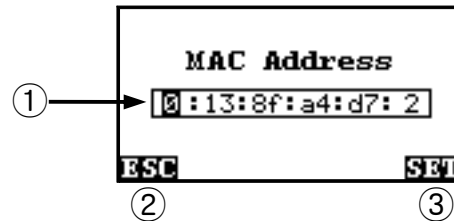

**Figure 5. System Setting**
- ④ Pressing or selects or confirms, or starts the selected function.
- To change the MAC address of the tester, choose the 4th item in Figure 5 and enter the new MAC address in ① below.
- ② To exit this menu and save the changes press .
- ③ To exit this menu without saving changes press .
- You can reset the tester to default settings (6th item in Figure 5); the tester asks for confirmation. Highlight your choice using ◀ ▶ then press  to accept (Note the exit key is available to cancel).